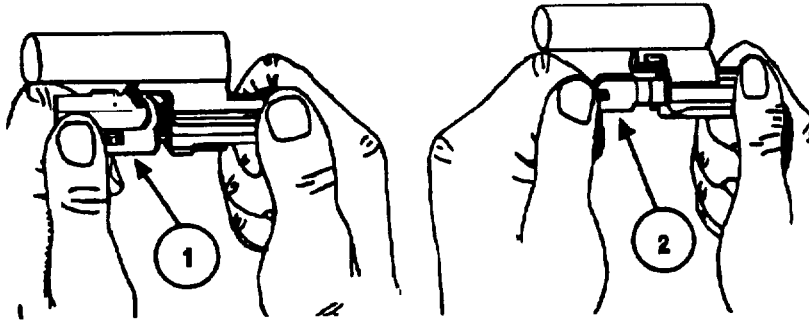
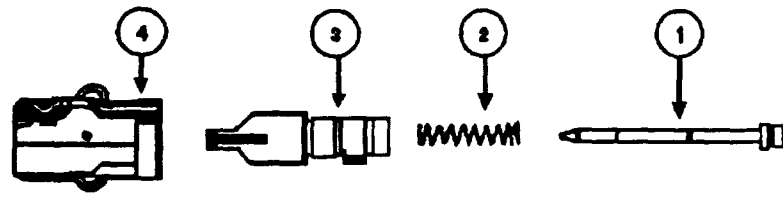

Figure 3-1. Removing Bolt Head And Locking Piece
Figure 3-2. Disassembled Bolt Head
b. Rotate the bolt head (1), Figure 3-1, 45 degrees toward your body and detach it from the locking piece (2). Separate the firing pin (1), Figure 3-2, and firing pin spring (2) from the locking piece (3). The bolt head (4) is attached to the locking piece.
a. Reassemble by installing the firing pin spring (2), Figure 3-2 on page 3-11, and firing pin (1) into the locking piece (3). Insert the locking piece into the bolt carrier (4).
b. Attach the bolt head (1), Figure 3-1 on page 3-10, onto the locking piece (2) and rotate the bolt head 45 degrees away from your body.